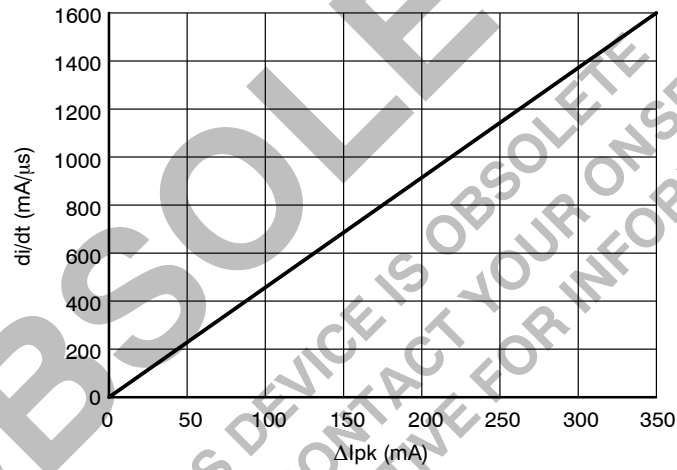

Figure 16. Power Switch Circuit di/dt vs. ΔIpK
9. Actual peak switch current is increased due to the propagation delay time and the di/dt (see Figure 16).
The current limit propagation delay time is typically 220 ns. This time is measured from when an overcurrent appears at the Power Switch Circuit drain, to the beginning of turn-off. Care must be taken during transformer saturation so that the maximum device current limit rating is not exceeded. To determine the peak Power Switch Circuit current at turn off, the effect of the propagation delay must be taken into account. To do this, use the appropriate Current Limit Threshold value from the electrical tables, and then add the ΔI_{pk} based on the di/dt from Figure 16. The di/dt of the circuit can be calculated by the following formula: